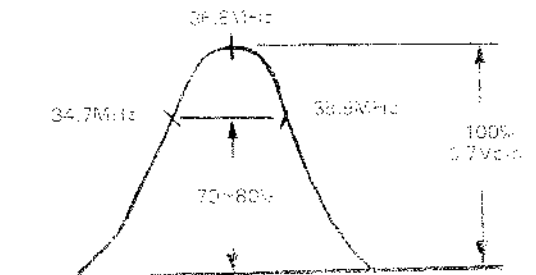

Fig. 18
2. Adjust the T102 to obtain a response curve in Fig. 18.